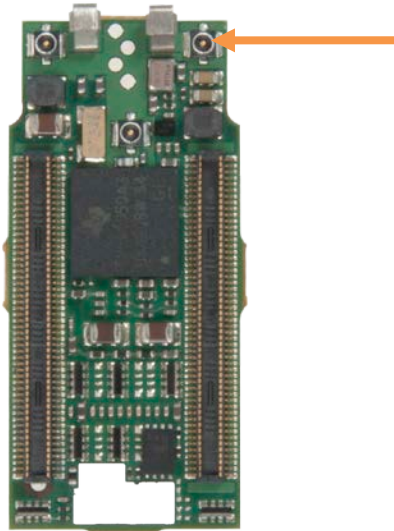

Figure 8.2: 2.4 GHz Antenna Connector on DM3730 Torpedo + Wireless SOM
2. For 802.11b/g/n Ethernet or Bluetooth support, connect one antenna to the 2.4 GHz antenna connector at reference designator J7. See Figure 8.2 for the antenna connector location on the bottom of the DM3730 Torpedo + Wireless SOM.